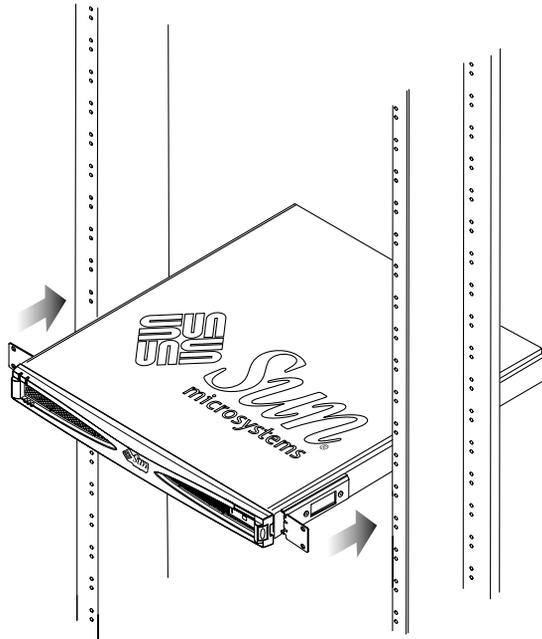

FIGURE 3-14 Front Mounting the Array in a Two-Post Rack
- a. For front mounting, overlap the holes on the front ear of each bracket over the corresponding holes on the fronts of the posts (FIGURE 3-14), and insert the screws.